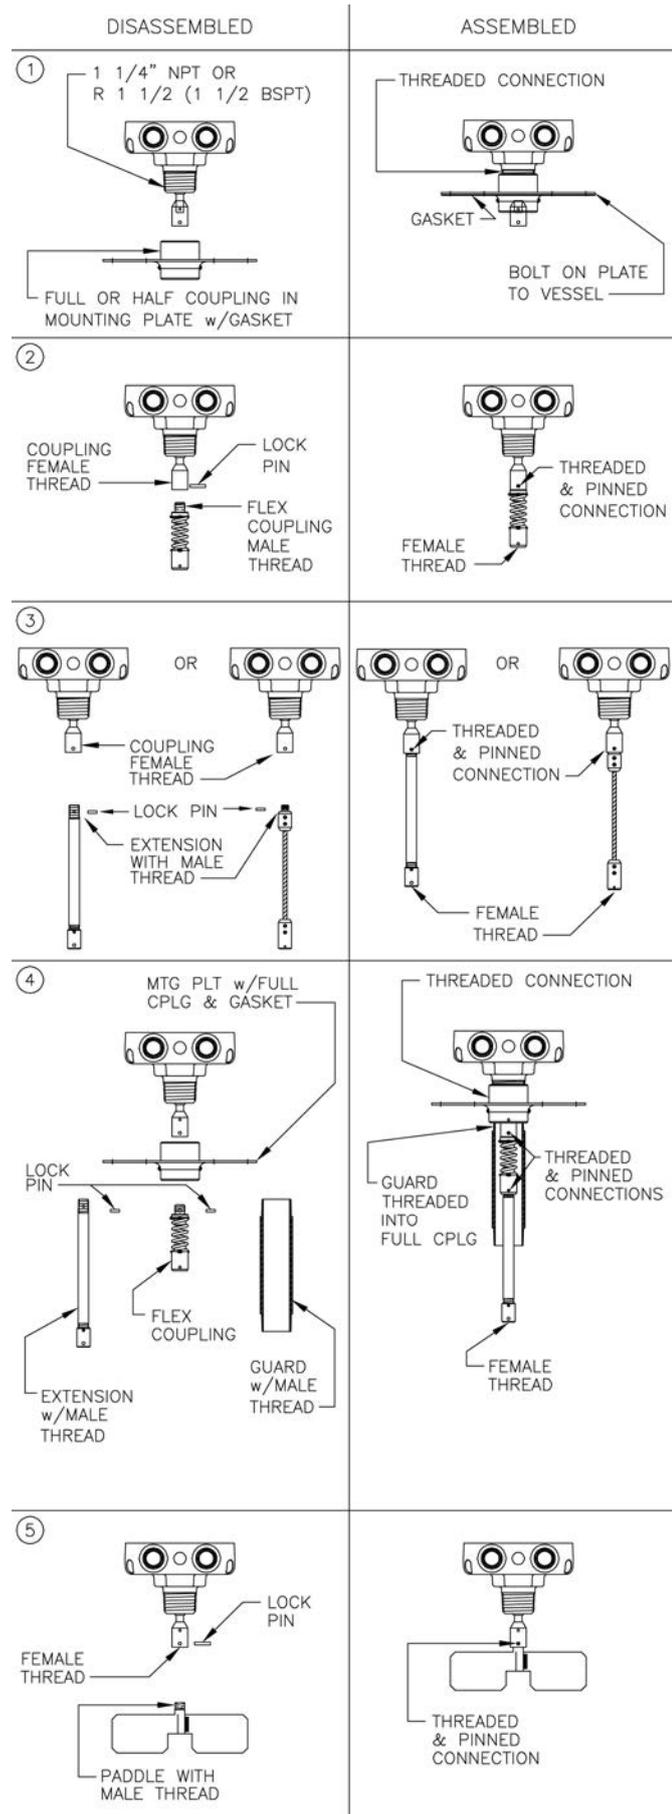

Figure 3
(1) Mounting Plate Attachment (if applicable)
After using the **mounting plate** as a mounting hole template (see Section 3), attach the mounting plate to the PLS unit prior to attaching to vessel. This is particularly advantageous if the paddle to be used is not the insertion type. Grease the paddle unit's threaded hub with anti-seize compound and thread the mounting plate into place until snug. (See also ① of Figure 3 for guidance).
(2) Flexible Coupling Attachment (if applicable)
Remove the **lock pin** from the PLS unit. Screw the **flex coupling** into the coupling provided on the PLS unit. Align the "through hole" within the connection and secure with the lock pin. (See ② of Figure 3 for guidance).
(3) Extension Attachment (if applicable)
Remove the lock pin from the PLS unit (or flex coupling). Screw the **extension** into the coupling provided on the PLS unit (or flex coupling). Align the "through hole" within the connection and secure with the lock pin. (See also ③ of Figure 3 for guidance).
(4) Guard Attachment (if applicable)
In applications using a mounting plate with a **full coupling**, slide the **1¼" pipe** over the shaft extension and secure to the mounting plate coupling. The shaft extension should protrude, from the guard, a distance of approximately 102 mm (4 inches). (See also ④ of Figure 3 for guidance).
(5) Paddle Attachment (if applicable)
The **paddle** should be attached at this time only if it has an insertion type connection or if a mounting plate is being utilised. Remove the lock pin from the applicable connection point (i.e. PLS unit, flex coupling, or extension). Screw the paddle into the applicable coupling. Align the "through hole" within the connection and secure with the lock pin. (See also ⑤ of Figure 3 for guidance).